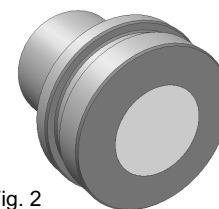

Fig. 2
4. Loosen the thumb screw air valve. Place the smoke element on end, greased end up, on a flat surface. Push the bulkhead over the smoke element and press down until the end is flush with the bulkhead (Fig. 2).